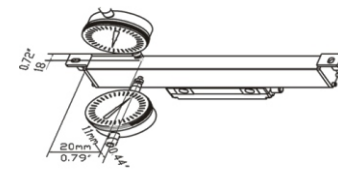
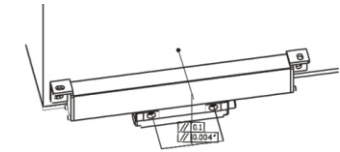

Figure 4.5
Figure 4.6
c) When you calibrate the parallelism of the body of the linear scale with level meter or other similar devices, the angle of the measuring head must be confined within  $\pm 30^\circ$  (based on the measuring head of the level meter being parallel with the level meter itself). As for the angle, the smaller, the better. If you use the decimal meter (Figure 4.5, 4.6, 4.8, 4.9), you must make the bar of the measuring head perpendicular with the surface to be measured, only in this case can ensure the actual measuring precision.
- h) Based on the center of the linear scale, you must take the point of symmetry of the two sides as the criteria point when adjusting the height and level of the linear scale. As to any linear scale, whenever you perform the horizontal adjustment or vertical adjustment, for the body of the linear scale itself, the range of the adjustment can't individually exceed 20mm from the end of the meter to the body of the scale (Figure 4.5). As for the Read Head, perform the adjustment within the two square standard sides (Figure 4.6)
The parallelism of the read-head referring to the worktable is less than 0.10mm, and the maximum parallelity can't exceed 0.15 (Figure 4.6)